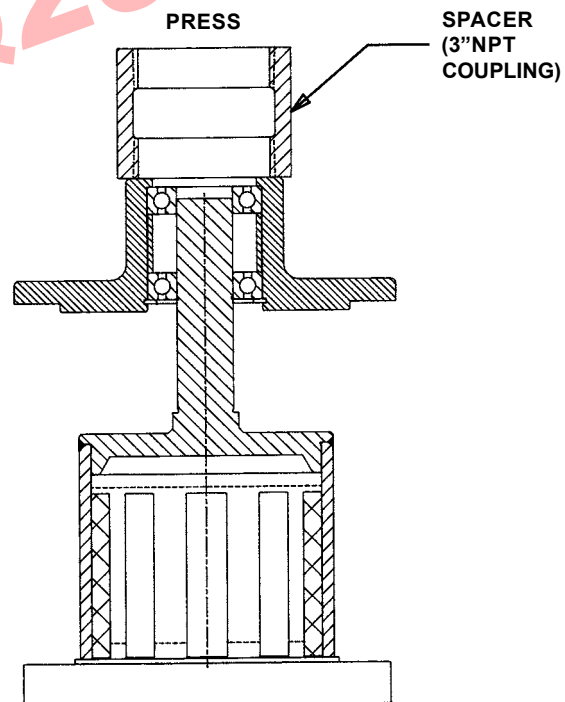

FIGURE 14
1. Place (1) bearing into housing bore. Gently tap or press into bore. Position spacer in bore and insert second bearing. Press down until bearings bottom out. Install internal retaining ring into bearing housing.
2. Slide shaft of outer magnet assembly into bearing until it meets resistance. Set upright in press (See **Figure 14**) and place a spacer on the end of housing such as 3" NPT coupling and press housing down until bearing bottoms out on shaft shoulder. Install external retaining ring on shaft of outer magnet assembly.